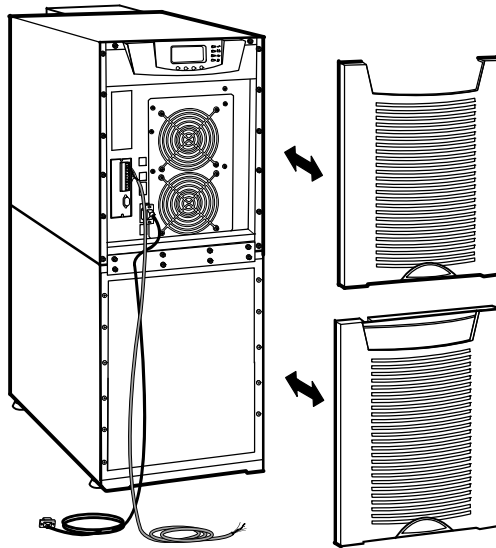

Figure 21. Reinstalling the Front Covers
11. Reinstall the front covers, starting with the bottom cabinet (see Figure 21).